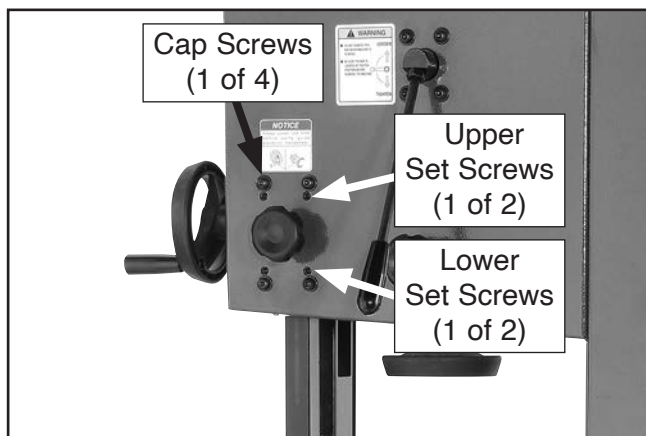

Figure 106. Guide post parallelism adjustment screws.
6. Loosen four cap screws shown in **Figure 106**.
- If guide post to blade distance is greater at *bottom* than at *top*, tighten two *upper* set screws shown in **Figure 106** an equal amount until guide post is parallel with blade.
- If guide post to blade distance is greater at *top* than at *bottom*, tighten two *lower* set screws shown in **Figure 106** an equal amount until guide post is parallel with blade.
7. Tighten four cap screws shown in **Figure 106**, then repeat **Steps 4–5**.